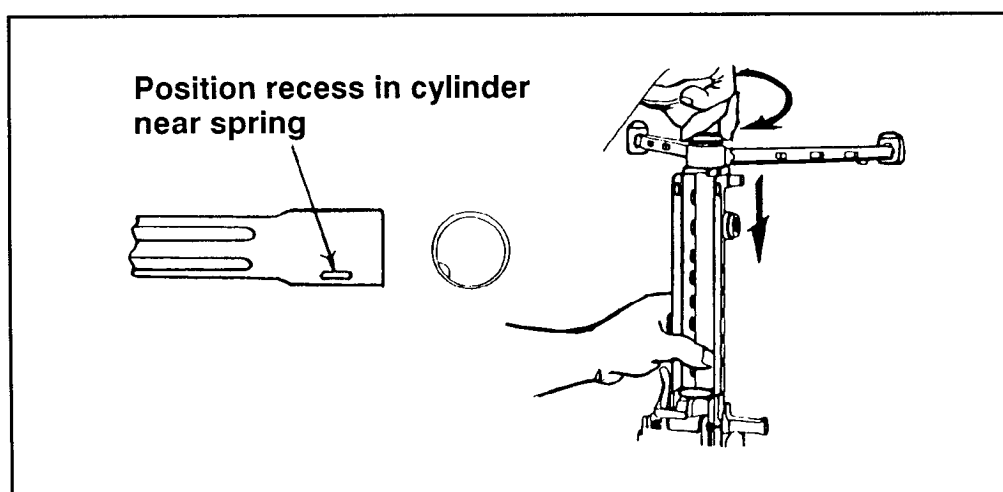

Figure 2-18. Replacing gas cylinder group.
b. **Replacing the Gas Cylinder Group.** Push the gas cylinder through the bipod yoke into the receiver. Push the cylinder to the rear while countering the pressure of the locking spring and guiding the end of the cylinder into the receiver with the other hand applying downward pressure. Position the recess in the cylinder near the spring. Turn the cylinder until the spring clicks into the recess at the rear of the gas cylinder (Figure 2-18).